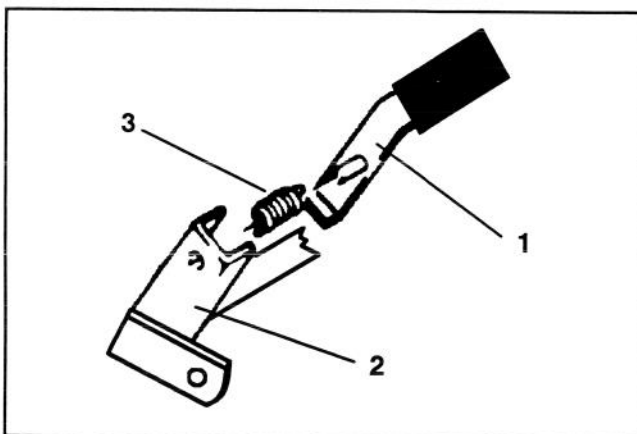

Figure 6
10. Reverse height-of-cut lever and insert into gage wheel bracket with spring (Fig. 6).